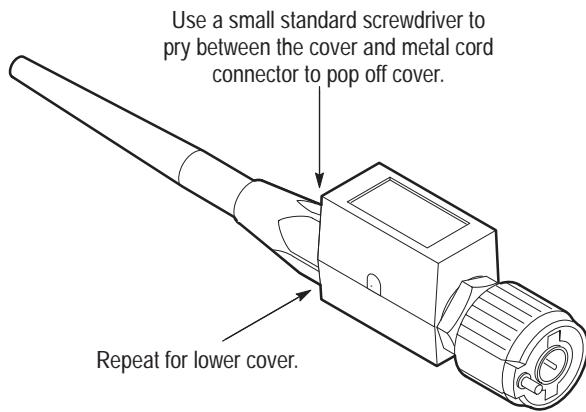

Figure 5–7: Exposing the probe body
- The probe tip should be exposed from the procedure *Measure Probe Bandwidth*. If not, follow the instructions in Figure 5–5 to expose the probe tip.
- Follow the instructions in Figure 5–7 to remove the probe body covers.
- Connect the high-amplitude output of a calibration generator, through a 50Ω precision cable, to the input of a tunnel diode pulser. See Figure 5–8.